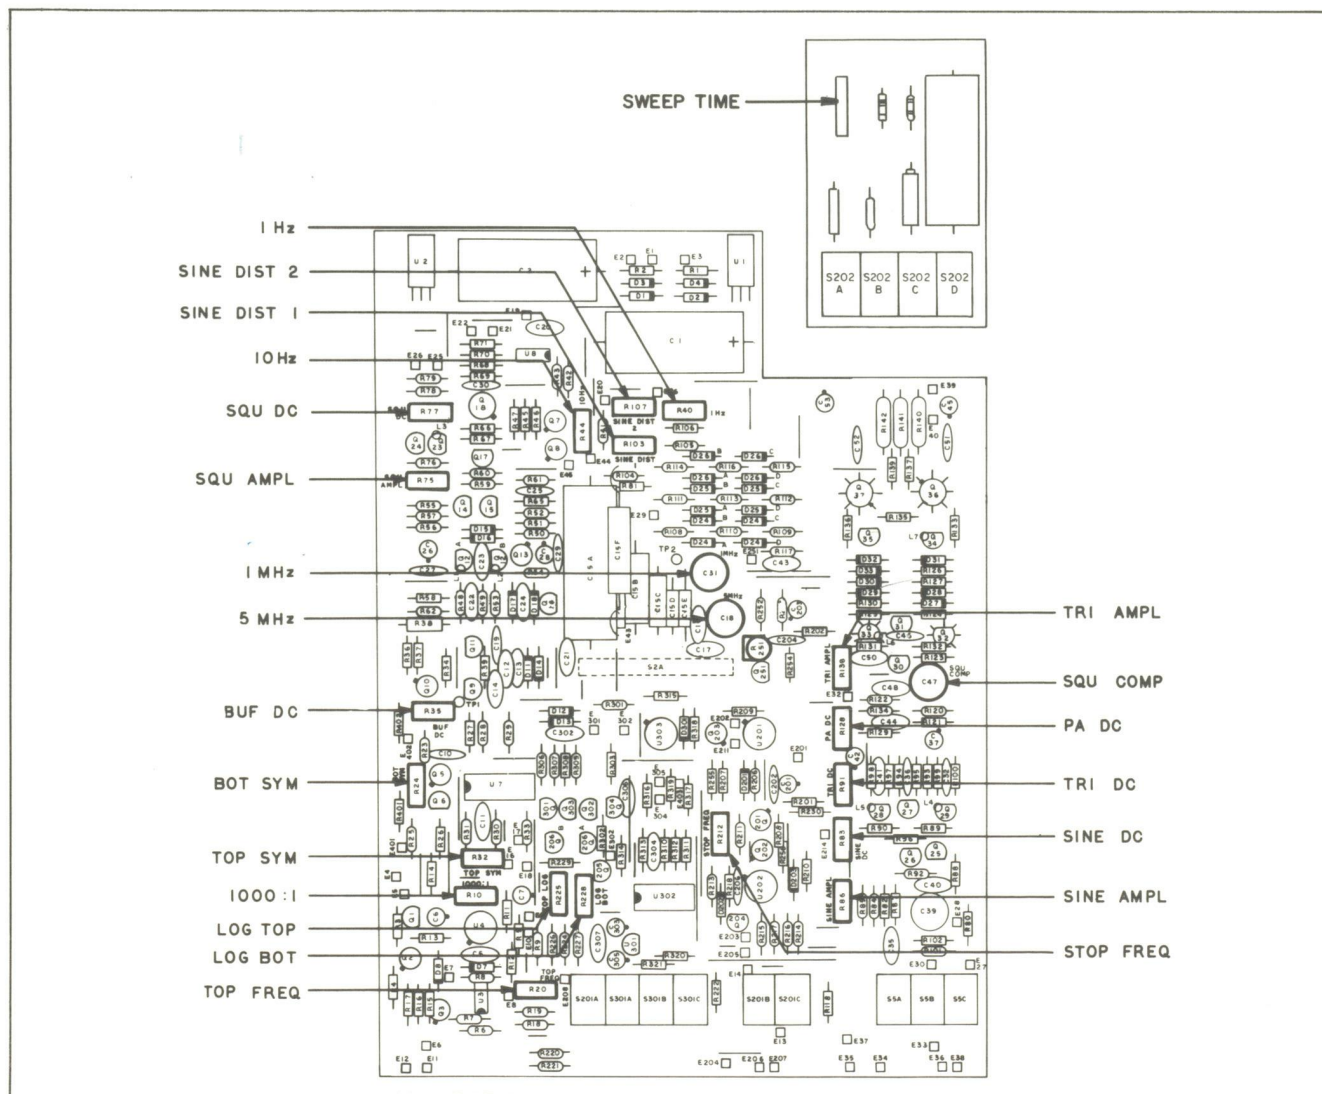

Fig. 14. Calibration adjustment locations.
This unit was carefully checked and calibrated at the factory prior to shipment. Readjustment is recommended only if repairs have been made in a circuit affecting calibration, or if you have reason to believe the unit may be out of calibration. Complete recalibration procedures are given in this manual. However, calibration adjustments should be attempted only if the proper test equipment is available, and you are experienced and qualified in its use. If the accuracy of the test equipment used for calibration is less than specified, the accuracy of the 3030 will be proportionately degraded. Perform related adjustments in the specified sequence to avoid any undesirable interaction of adjustments. Locations of calibration adjustments are given in Fig. 14.
7. Adjust SWEEP TIME (Fig. 14) for exactly 10 ms sawtooth on scope.